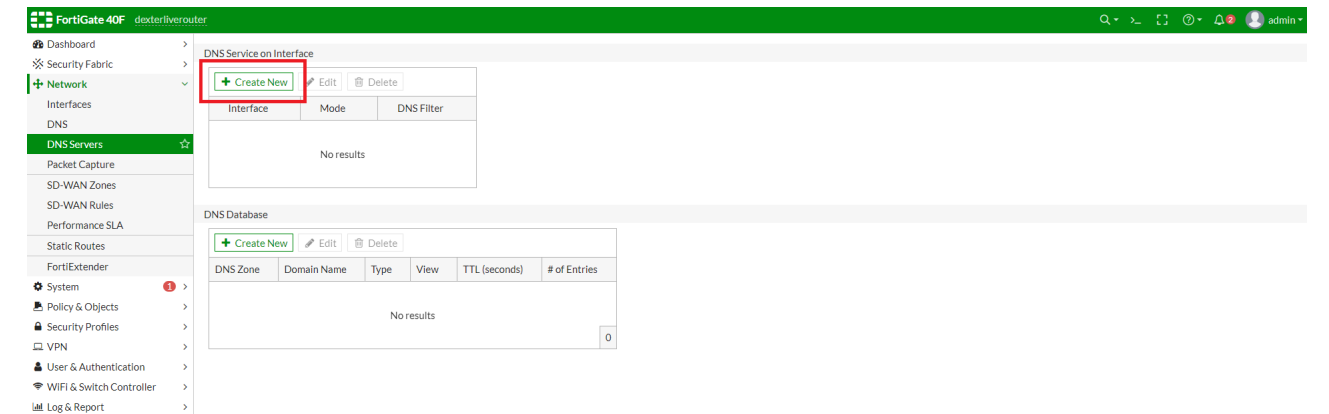

Figure 12
5. Configure the DNS Interface by navigating to "Network," then select "DNS Servers." Under "DNS Service on Interface" select "Create New." (Figure 12)